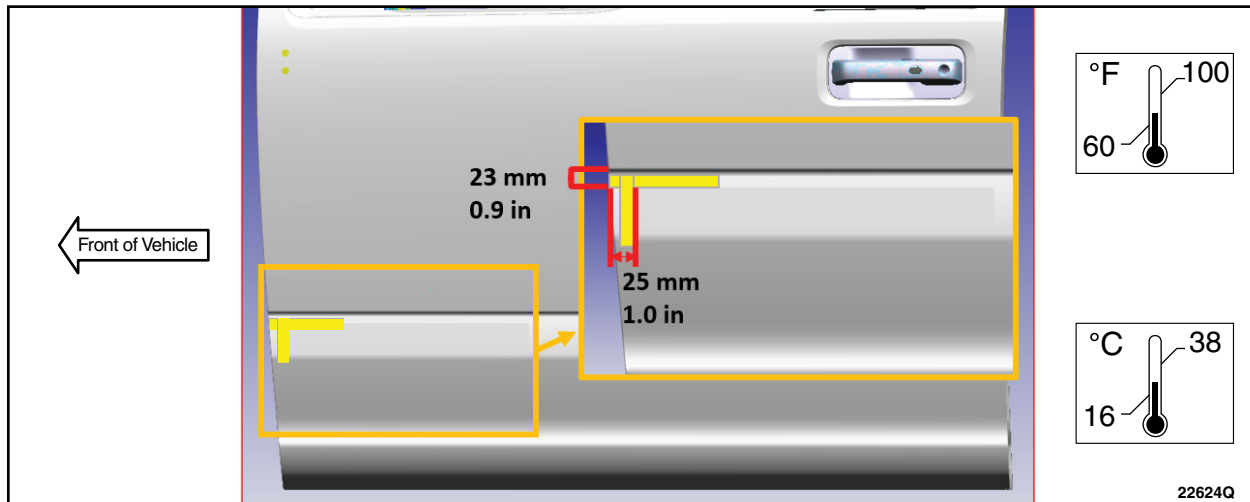

FIGURE 4
18. Measure and apply locating masking tape to the front RH door outer panel. See Figure 4.